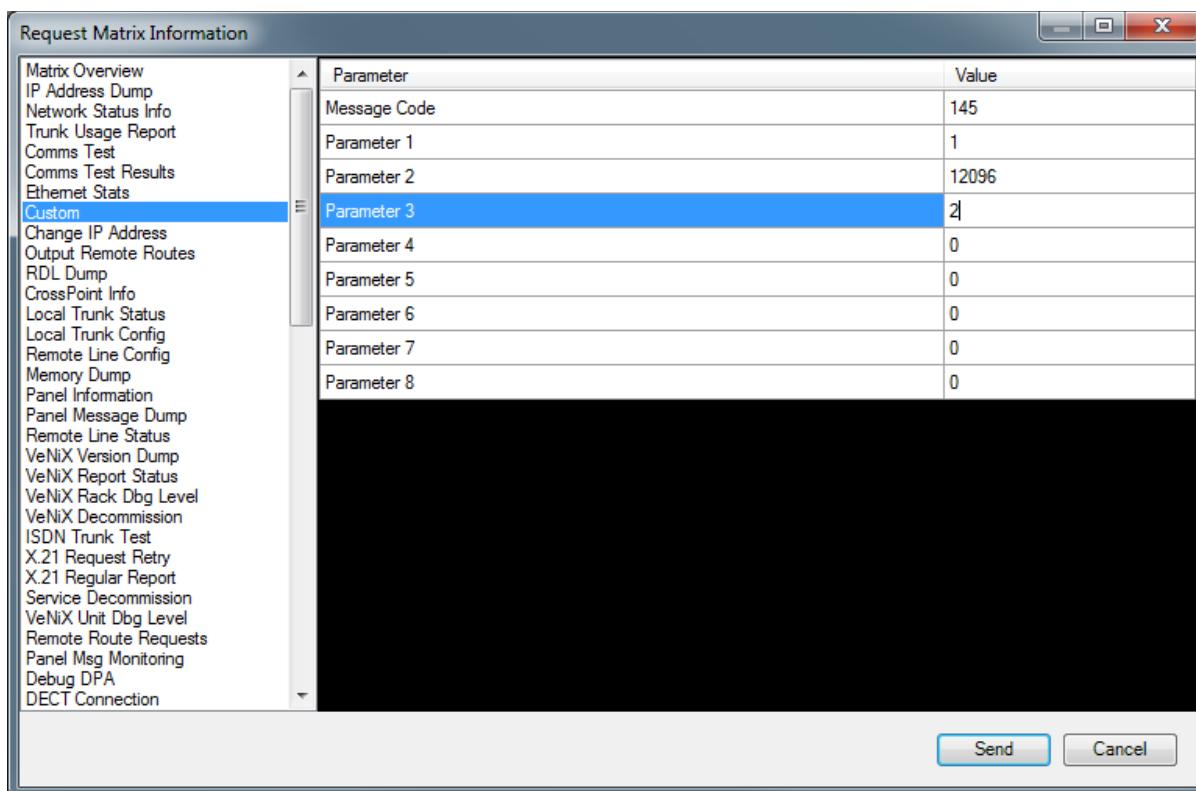

Figure 5-14: Setting the matrix type
- 3) Click Request info. In the dialog (see *Figure 5-14: Setting the matrix type*), enter the following custom command: